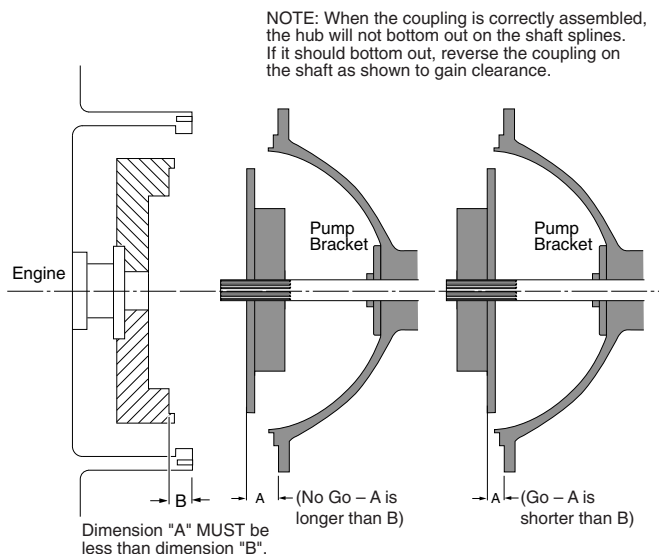

Figure 4
- Measure the distance from the engine side of flywheel coupling adapter ring to the mounting face of the pump bracket. Refer to Figure 4 below, **Dimension "A"**.
- Next, measure depth from face of flywheel housing on engine, to face on flywheel against which coupling will be bolted. Refer to Figure 4 below, **Dimension "B"**.